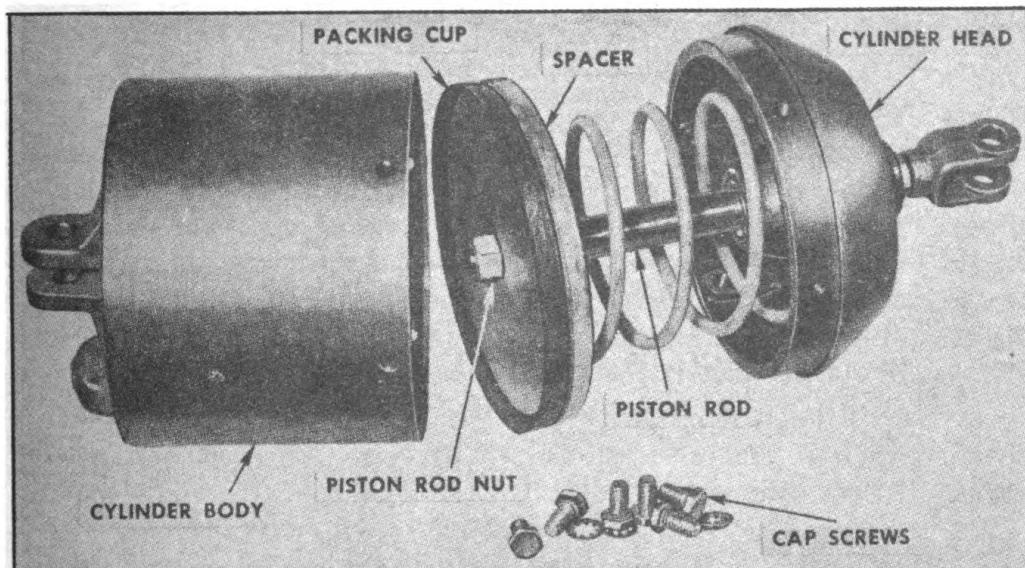

FIGURE 35. CYLINDER—DISASSEMBLED
*d. Testing for leakage.*—(1) It will be necessary to remove brake cylinder from unit to test for leakage.
(2) Apply 60 lbs. of air pressure to cylinders.
(3) With a brush and soap suds paint around bolting flange, at the opening to the air strainer, and around the push rod guide.
(4) Excessive leakage should be corrected by disassembling the cylinder, thoroughly cleaning all parts, and replacing the packing cup.
*e. Disassembly* (Figure 35).—(1) Remove the six cap screws holding the cylinder head in place and pull push rod and piston assembly out of cylinder body.